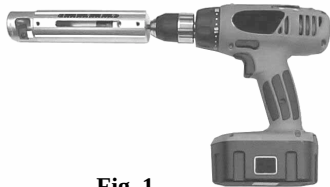

Fig. 1
Step 1. (Fig. 1) Mount the tool onto power drill using the 3/8" (9.53mm) drill adapter on tool.